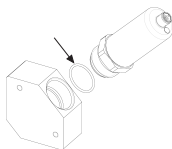

Fig. 2: Example for the installation of an L-Rix 2100 refractometer with the O-ring 25x2 FVMQ 70 BU
1. Use the enclosed gasket - O-Ring 25x2 FVMQ 70 BU (Mat. no. 324463) or 25x2 EPDM 70 (Mat. no. 320290) - when installing the L-Rix Transmitter in an adapter as depicted in Fig. 2 [► 13]. Further information regarding the different adapters is given in Section 4.1.4 [► 18].